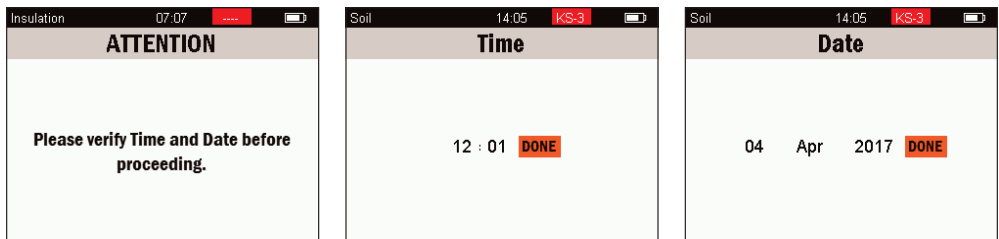

Figure 18 Verify time and date
1. When the TEMPOS controller is first turned on, a message requesting time and date verification appears (Figure 18).